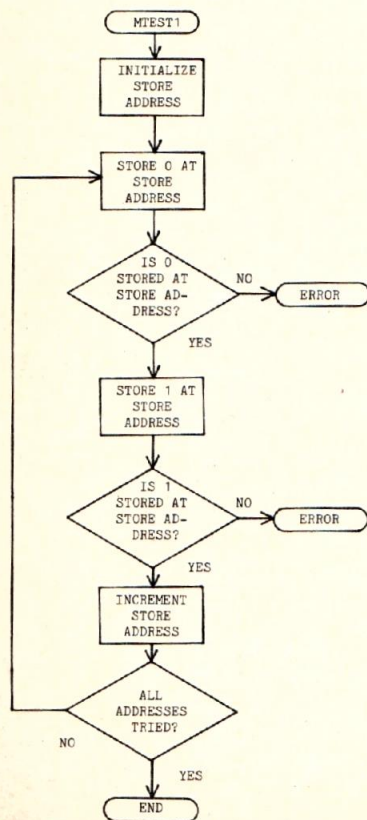

Fig. 1. Simple memory test.
**A Simple Test Program.** Basically a test of memory amounts to checking that each memory byte will correctly read back previously stored data. Since each byte is in turn composed of 8 bits, the data used for checking should try each bit in the "1" and "0" states. Thus a simple test procedure might be first to write all zeroes into a byte, read it back for checking, try all ones, and then go to the next address until all 4096 bytes are tested. Figure 1 shows a flowchart of such a test routine. Actually this is a very poor testing scheme because it will fail to detect a number of common memory board faults.
Shorts between two closely spaced printed circuit traces is a common problem. Assume a solder bridge short between two adjacent data lines on the board. What this means is that those two bits will always be read back identical to each other regardless of what is actually stored in the memory IC's. Usually zeroes will override; meaning that if either of the "paired" data lines has a 0, it will force the other one to a 0 also. Obviously the test scheme in Fig. 1 would not detect this problem since all bits in the byte are identical. Other complementary patterns such as 252 (10101010) and 125 (01010101) (octal) could be used but no such pattern can guarantee detection of a short between any pair of data lines.